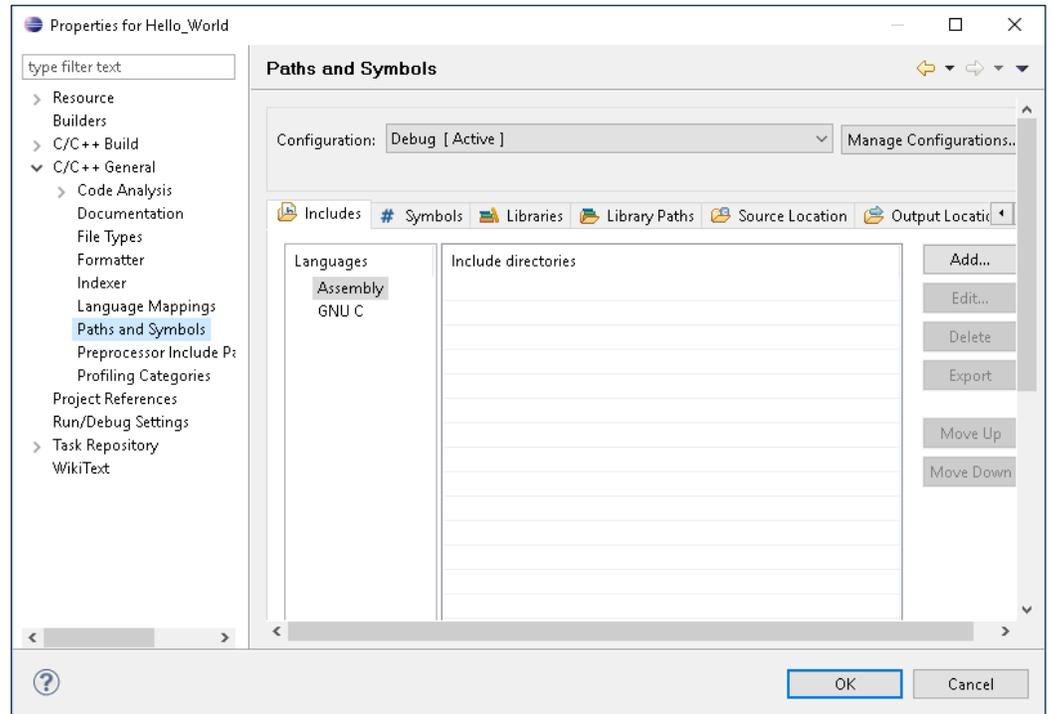

Figure 25. Includes tab on the Paths and Symbols dialog box.
- v. Expand the **C/C++ General** folder and select **Paths and Symbols**. The Paths and Symbols controls appear in the right panel on the **Includes** tab, as shown in **Figure 25**.